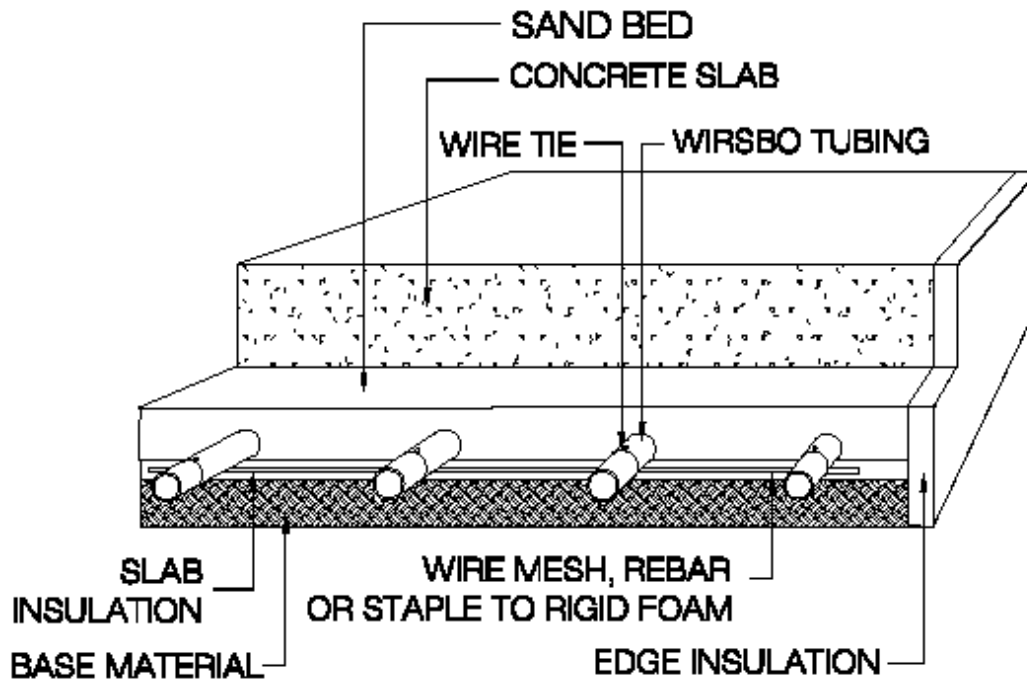

**Figure 2**
5. Tie the tubing to the wire mesh or rebar using Wirsbo wire ties and wire twister. Secure the tubing to the wire mesh or rebar every four feet along straight runs. At the 180° turns, tie the tubing at the top of the arc and once on each side, 12" from the top of the arc (see Figure 2), to prevent it from dislodging or floating into the pour.